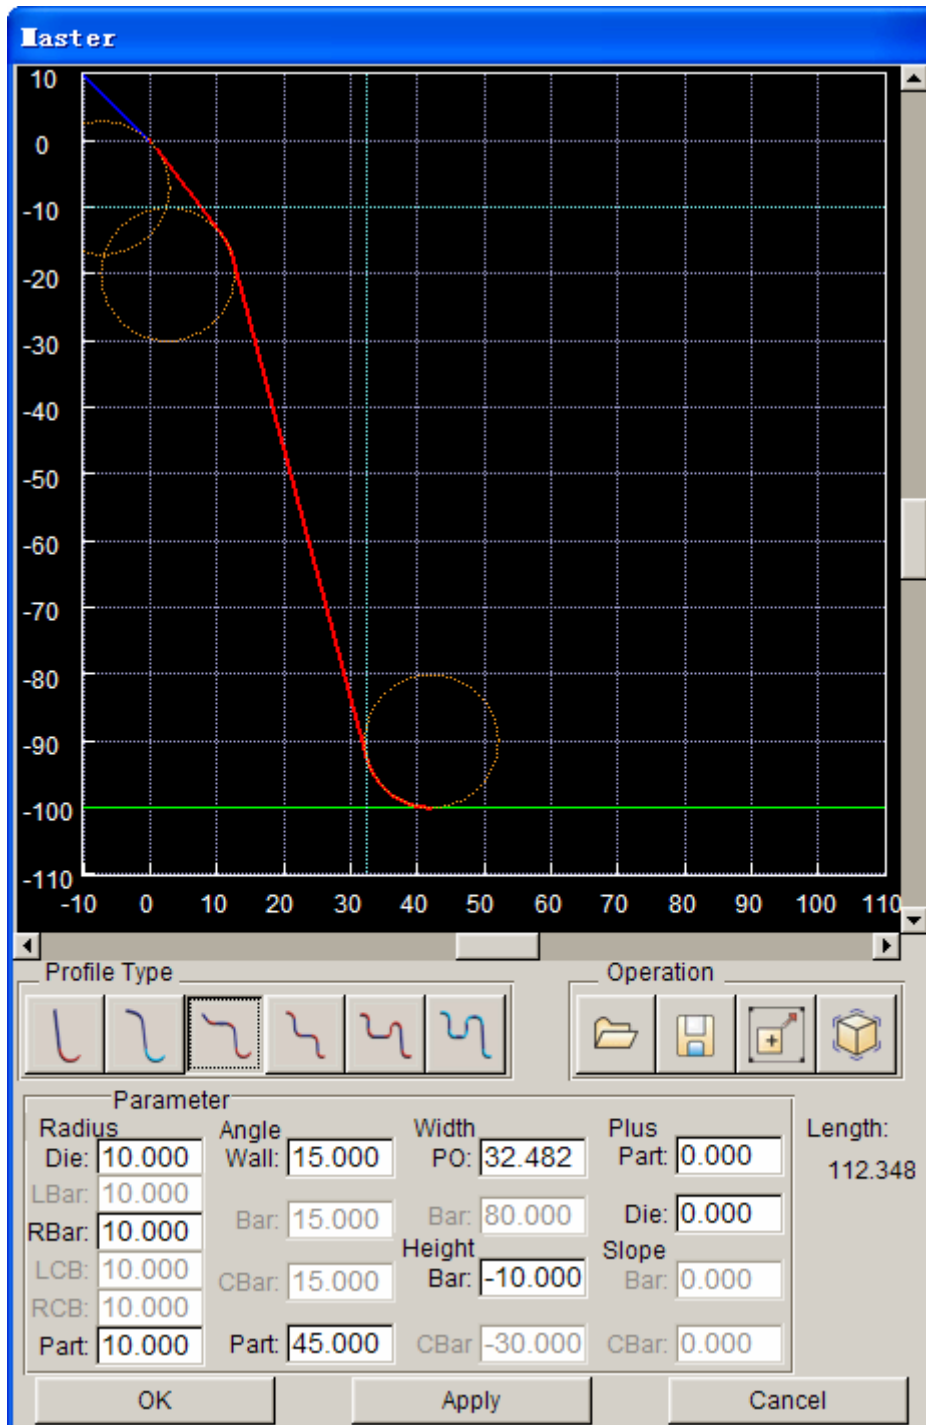

Figure 35 Master profile dialog box
2. Select the Profile type 3 in the **Master Profiles** dialog box, as illustrated in Figure 35.